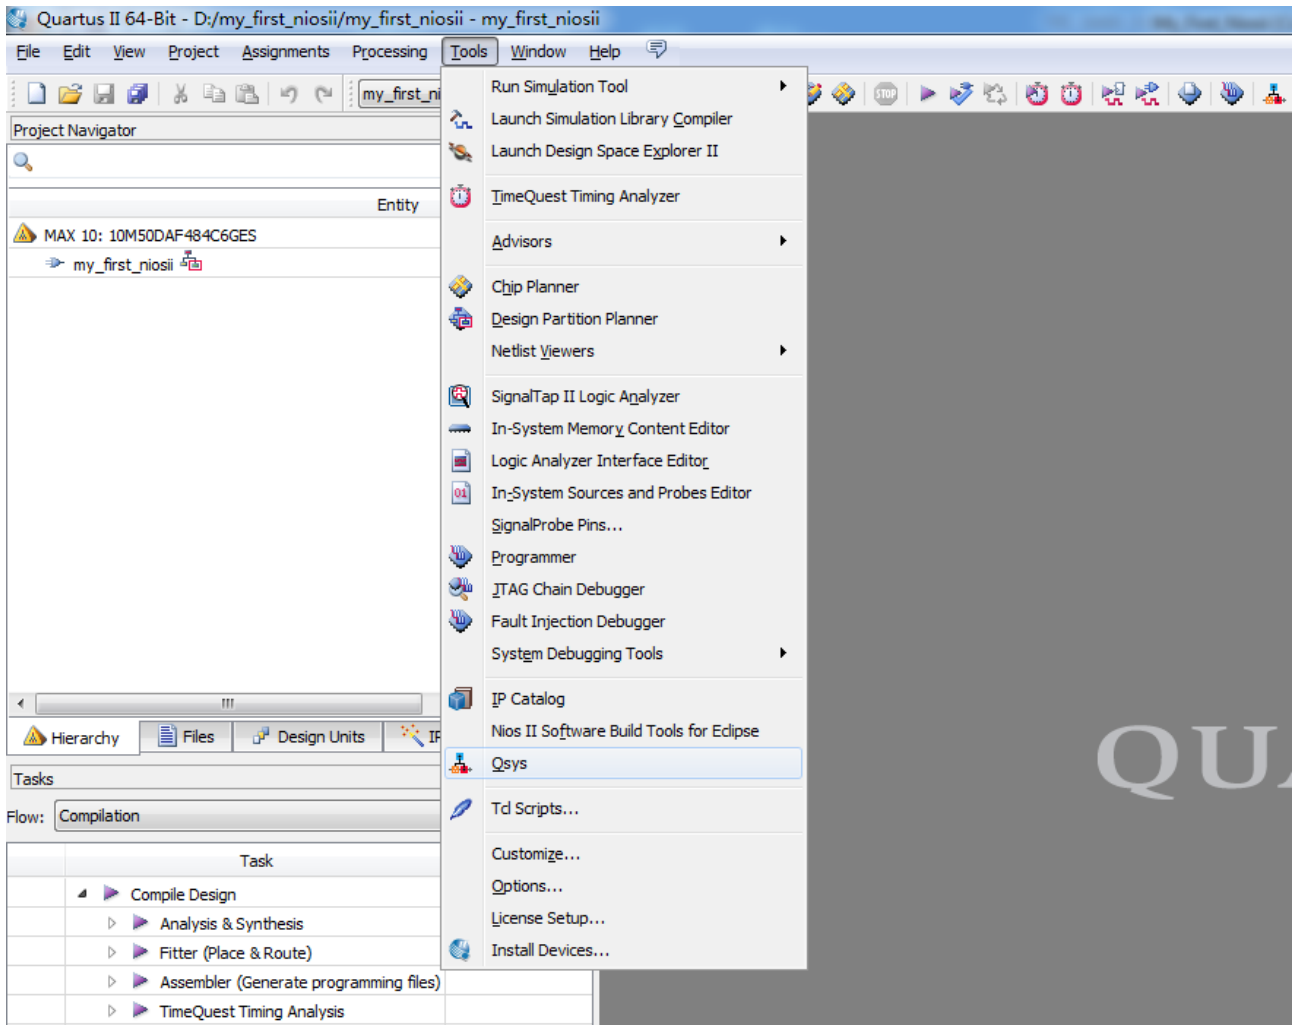
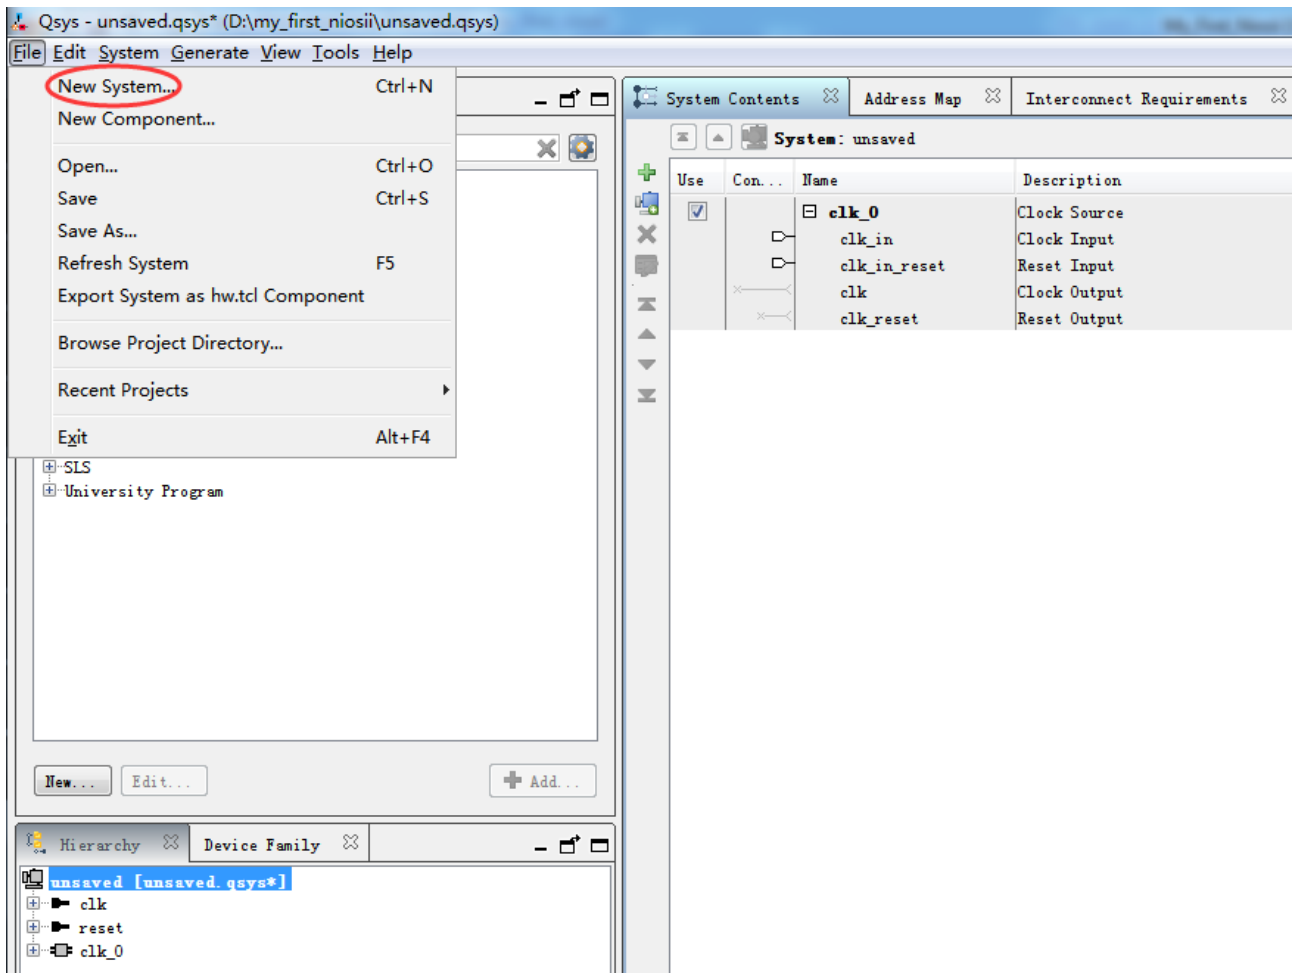

Figure 1-9 Select Tool -> Qsys
Figure 1-10 Create a new Qsys system
5. Choose **Tools** -> **Qsys** to open the Qsys system builder tool, as shown in **Figure 1-9**. Choose **File** -> **New System** to create a new Qsys system, as shown in **Figure 1-10**.